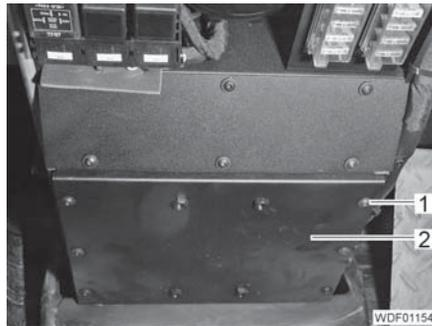

Fig. 427 Cover attachment
- Unscrew 6 screws (Fig. 427,1) and remove the cover (Fig. 427,2).
- Position the cover (Fig. 427,2), screw in 6 screws (Fig. 427,1) and tighten.